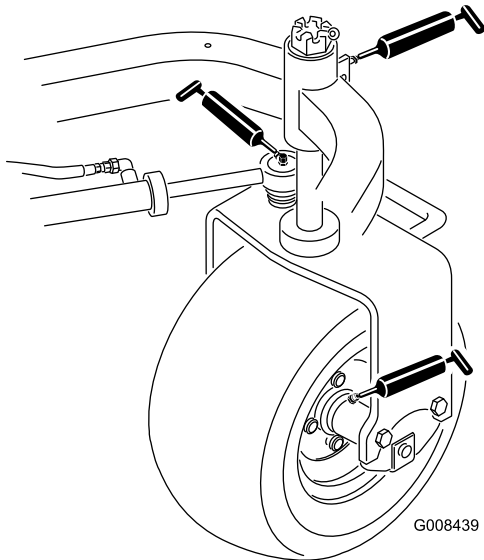

Figure 33
- Rear wheel hub (1) (Figure 33)
- Castor bearing (1) (Figure 33)
- Steering cylinder (2) (Figure 33)